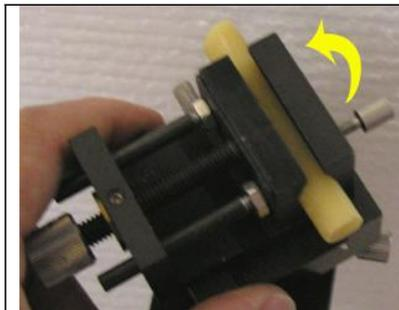
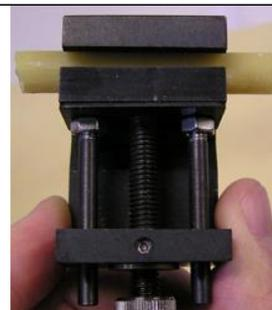

Fig. 5a
Fig. 5b
- (8) Turn the mechanical chuck with the vise to let the cutting sample perpendicular to the cutting blade (Fig. 5a and Fig. 5b), then tighten the screw as shown in Fig. 4c